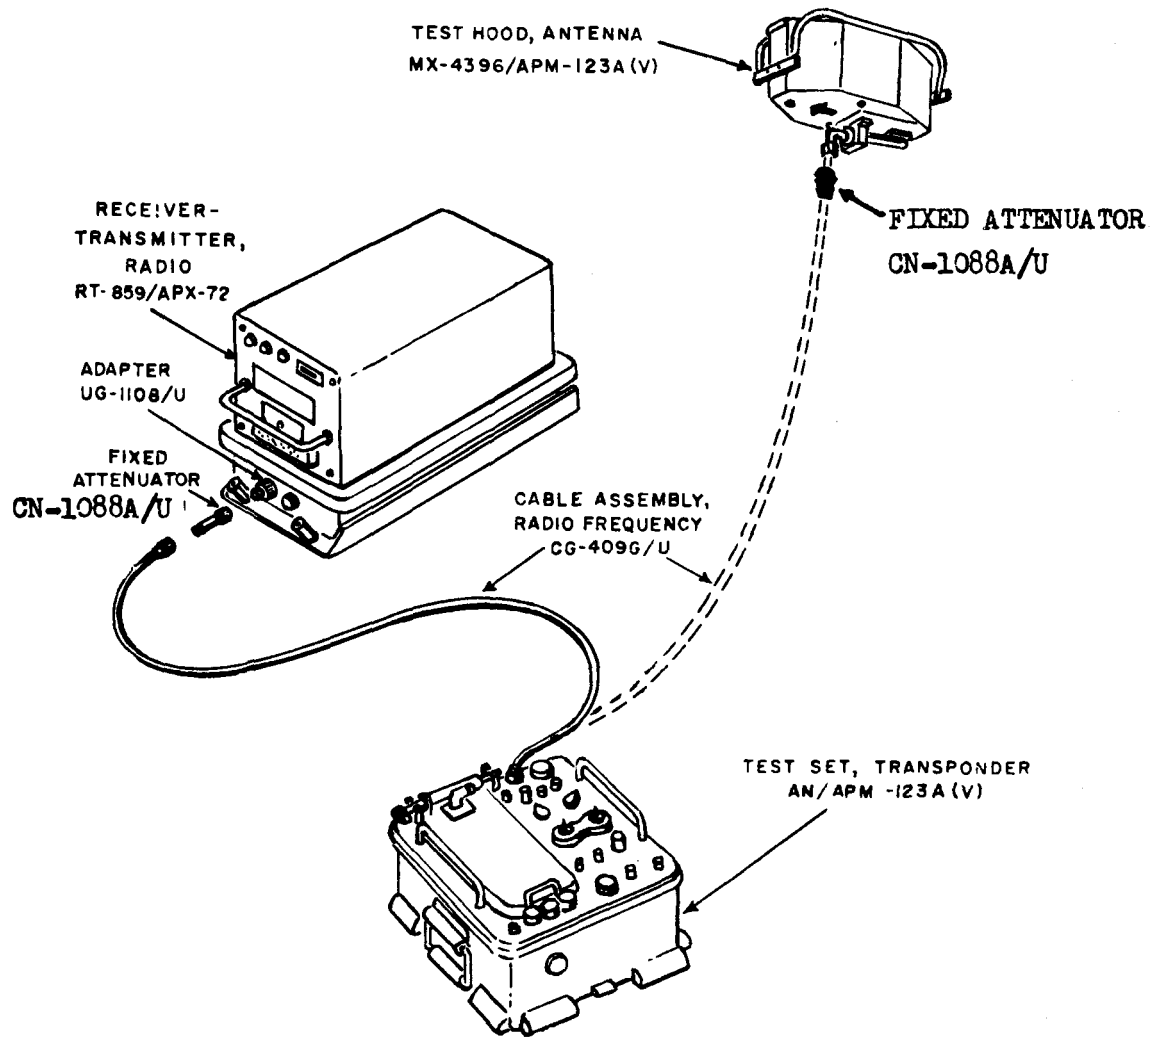

Figure 3-4. Test setup for nonradiation operation.
- (4) Connect one end of the CN-1088/U fixed attenuator through a UG-1108/U adapter to the ANT. J5 input of the RT-859/APX-72. Connect the other end to the CG-409G/U rf cable.
c. Test Setup for Nonradiation Operation, Antenna Hood Coupling. (fig. 3-4)